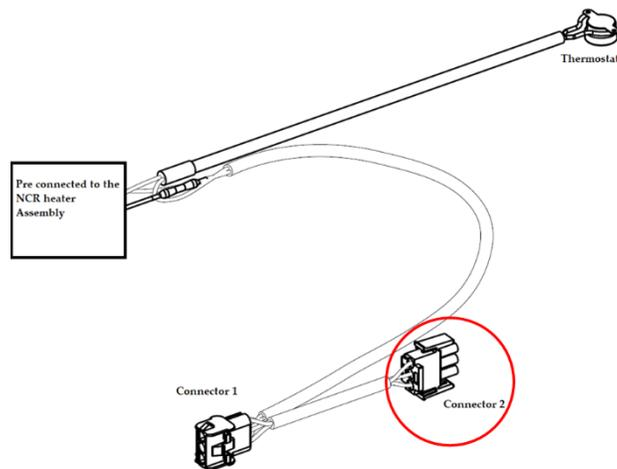
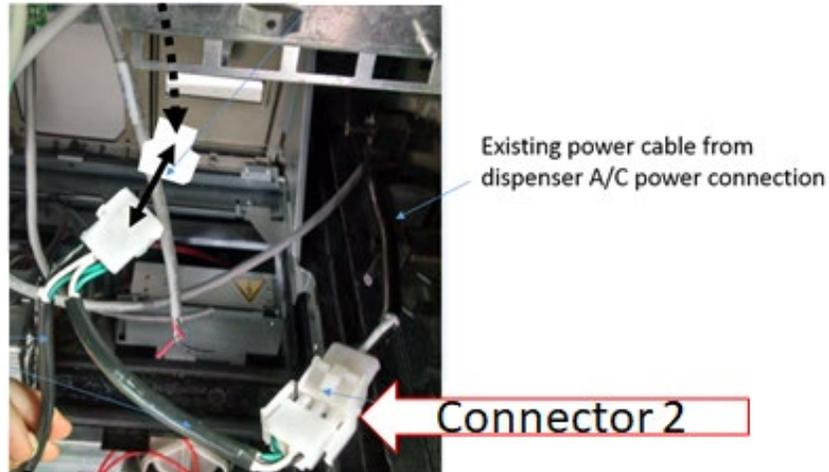

Figure 18
Figure 19
14) Affix Connector 2 (identified in Figure 18) to the existing dispenser A/C power cable as shown in Figure 19.